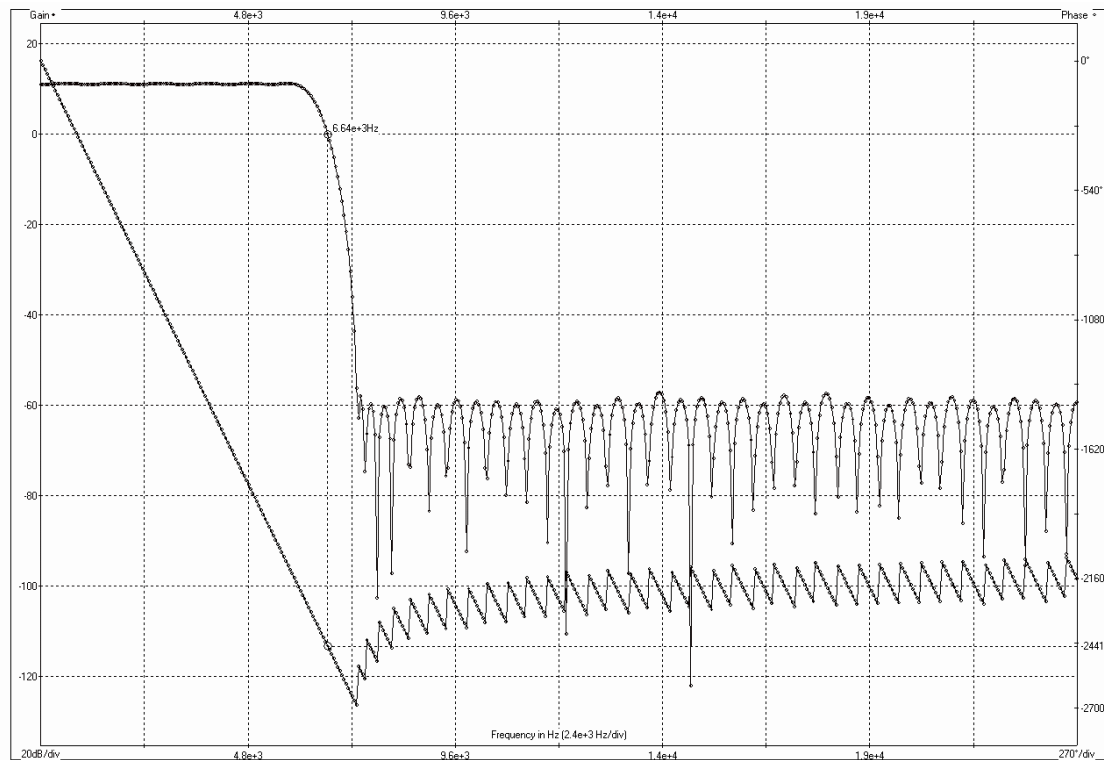

Figure 15 I/Q Filter response in 25kHz operation.
13. Adjacent channel filtering is the ability of the CMX910 filters to reject adjacent channel energy and note that it does not correspond directly to the 'Adjacent Channel Selectivity' as defined by IEC61993-2 (or IEC 62287). The filter characteristic in each of the I and Q paths for 25kHz mode operation is shown in Figure 15. Note that the pass-band has a gain of +10dB and stop band is -60dB so the typical rejection is $+10 - (-60) = 70\text{dB}$.